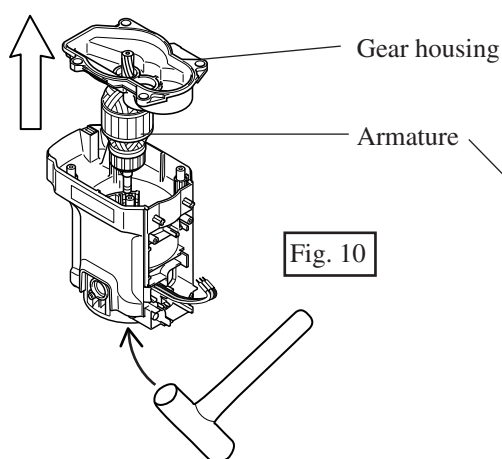

Fig. 10
- 11) Separate armature section from motor housing by striking the rear side of armature shaft as illustrated in Fig. 10. And then, disassemble armature with the repairing tool No.1R045 from gear housing as illustrated in Fig. 10A.